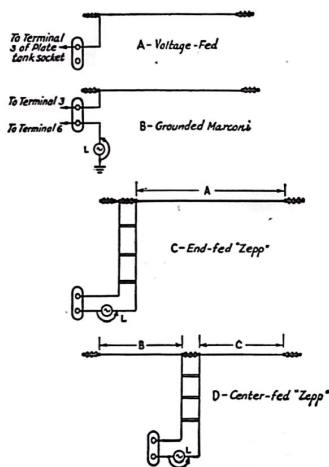

Fig. 26 — Simple antenna systems recommended for use with the beginner's transmitter. Suitable dimensions are given in the table on the preceding page.
**I**N MOST cases, the lowest frequency band at which it is desired to operate, the available space and the locations of suitable supports for the antenna will dictate the size and type of the antenna system. Four types are shown in the diagrams of Fig. 26, with the dimensions for various bands given in the table on this page.
With the end-fed "Zepp" type, the lengths given in the table are for the distances between the two antenna insulators as indicated by dimension "A," while the lengths given in the table for the center-fed antenna are the sum of dimensions "B" and "C" shown in Fig. 26-D.
To obtain maximum output on the fundamental some sort of r.f. output indicator is required. A thermoammeter with a scale of 1 ampere is desirable, but a cheap and quite satisfactory substitute is a 60-ma. dial light similar to those used in the panel of the transmitter. The insulation of one of the feeder wires should be removed between the transmitter and the feed-through insulator at the window where the feeders enter, and the dial light should be connected in series with this feeder, as shown in Fig. 26. A strap of insulated wire two or three feet long should be shunted around the lamp as shown. One end of the shunt wire should be connected to the antenna output terminal and a clip placed at the other end. This clip should be attached to the opposite terminal of the lamp. Now, with the transmitter running and loaded as previously described, move the clip along the feeder away from the lamp a little at a time until the lamp shows a dim glow. If parallel tuning is used it may